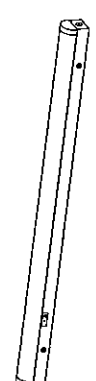

Figure 14
- Step3. Connect the wires according to the wiring instructions, and assemble the disassembled lamp back. (Figure 14)